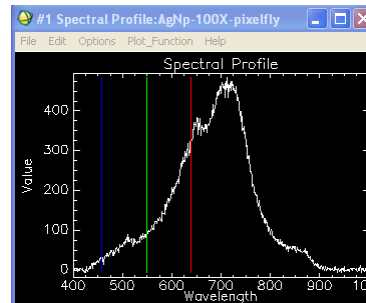

Figure 4. Original Spectral Profile
7. The spectral curves of a single pixel (Z-axis profile) are shown for the original (left) and filtered (right) data (see Figure 4.)